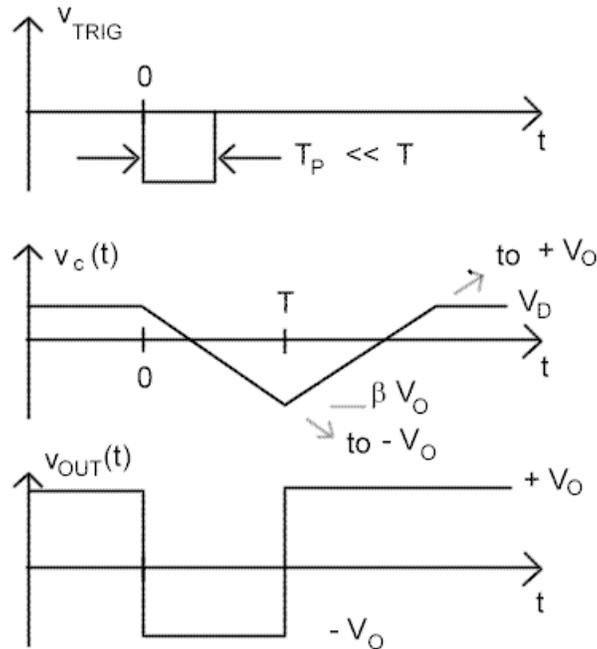

Figure 7
To see how the circuit operates, assume that it is in its stable state with the output at vO = +VO and the capacitor clamped at the diode D1 on voltage VD (0.7 V (with b VO > VD)). If the trigger amplitude is greater than b VO - VD, it will cause the comparator to switch to an output vO = -VO. As indicated in figure 7, the capacitor will now charge exponentially with a time constant t = RC through R toward -VO because D1 becomes reverse-biased. When vC becomes more negative than -b VO, the comparator output swings back to +VO. The capacitor now starts charging toward +VO through R until vC reaches VD and C becomes clamped again at vC = VD.
(2) Calculate all values shown in figure 7 and plot the output and capacitor voltage waveforms.